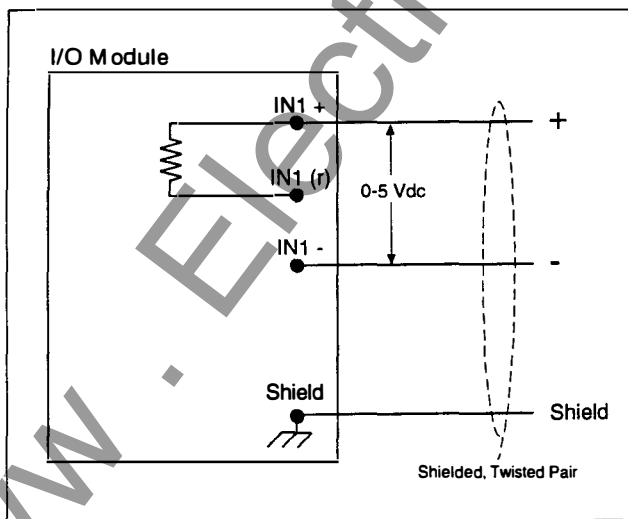
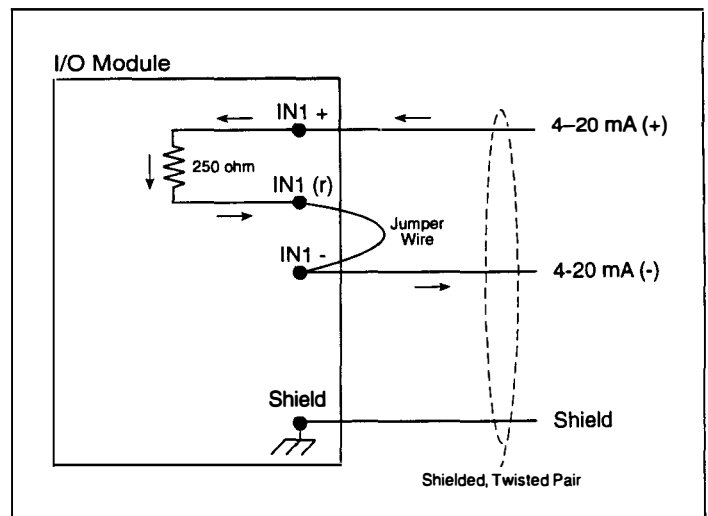

Figure B-7: Connections for 0-5 Vdc Input Signal
Figure B-8: Connections for 4-20 mA Input Signal
Figure B-7 shows analog input wiring connections for a 0-5 Vdc input signal. Figure B-8 shows analog input wiring connections for a 4-20 mA signal.
1. Connect the jumper to the IN1 (+) and IN1 (-) terminals (see figure B-8). This places a 250 ohm resistor (located inside the I/O module) into the circuit. When a 4-20 mA current is run through the resistor, the Circuit Monitor measures an input voltage of 1-5 volts across the resistor.